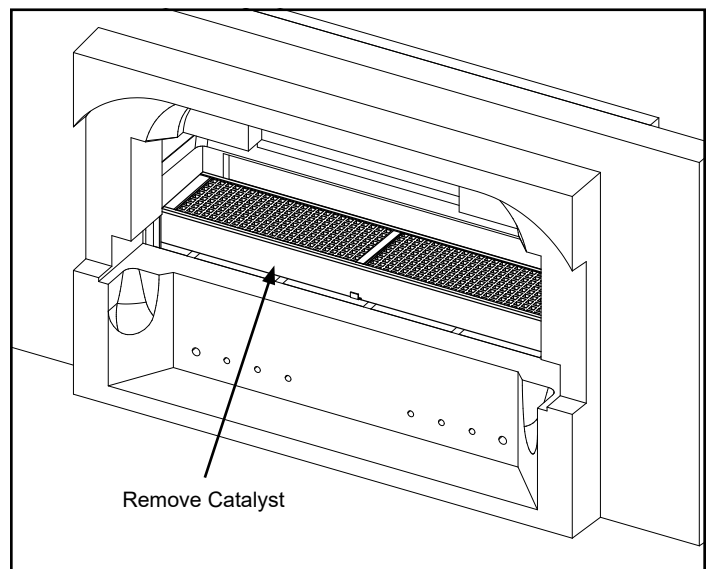

**Figure 5.12 - Remove catalyst.**
3. Remove the catalyst by gently pulling it straight out, Figure 5.12. Place the catalyst where the catalyst's ceramic components will not be damaged.